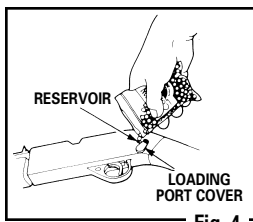

Fig. 4
- Slide the loading port cover toward the rear of the air rifle (Fig. 4).